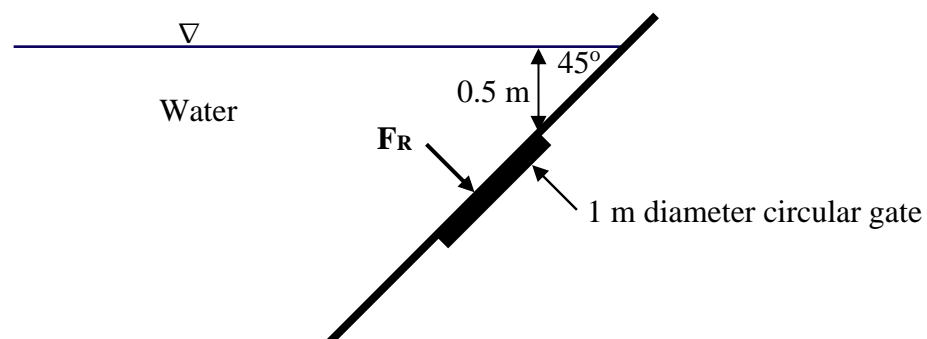

Figure Q10
10. What is the magnitude of the resultant hydrostatic thrust F_R acting on the 1 m diameter circular gate mounted on the side of a water tank in Figure Q10?